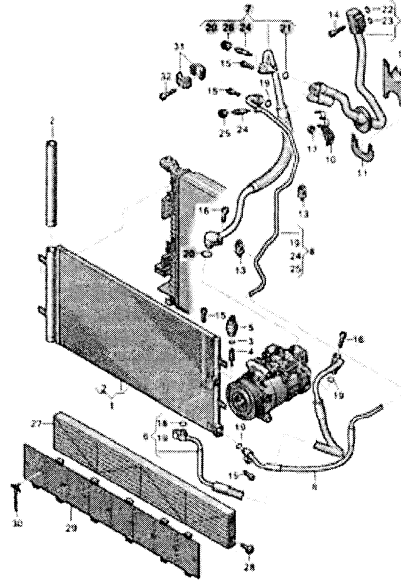

Figure 4. Low side line to be replaced.
- Replace the low side refrigerant line that connects the air conditioning compressor suction port to the hybrid refrigerant line to the expansion valve (Figure 4). Be certain to use new O-rings at these and all refrigerant circuit joints that are disconnected.